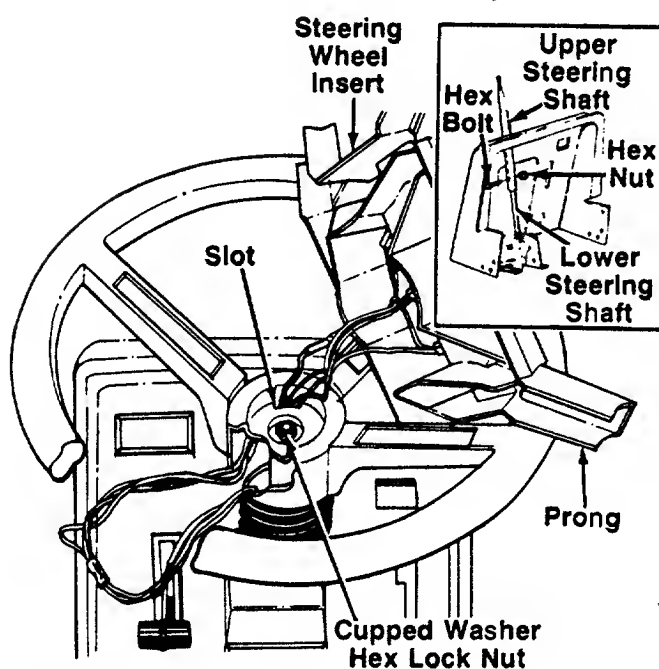

FIGURE 5.
7. Slide the steering bellow over the steering column. Hold the wires out of the way as shown. See figure 5.
12. The four holes in the upper steering column provide four height positions for the steering wheel. See figure 5, inset. Select desired position, and secure with hex bolt and hex lock nut. Tighten securely.